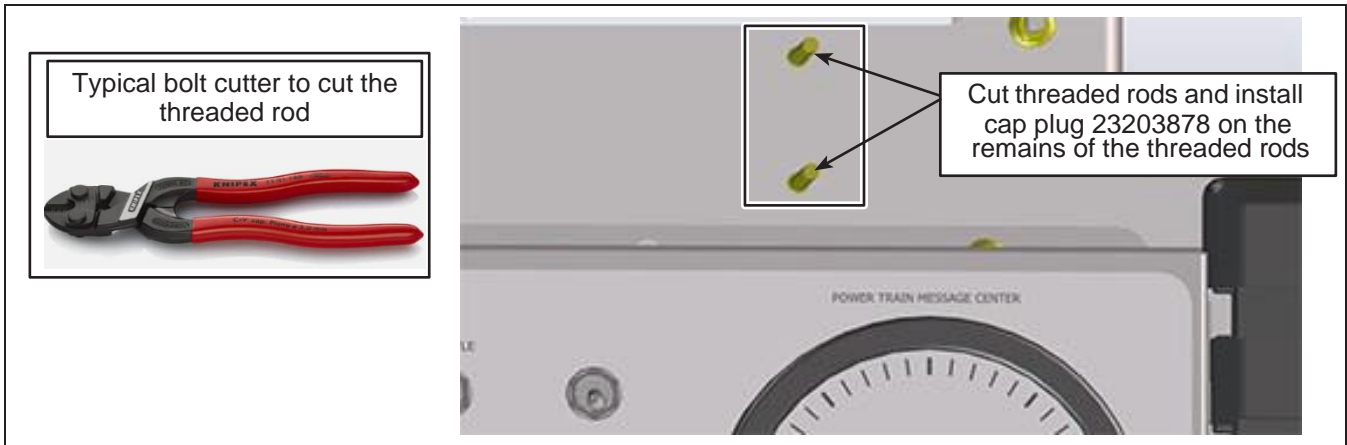

Figure 4 - Threaded Rods to cut
- 1.17. Use a bolt cutter to cut the two threaded rods of the split block on the right. See Figure 4.